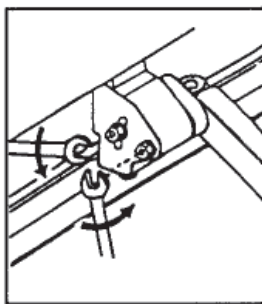
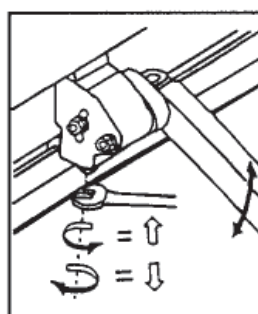
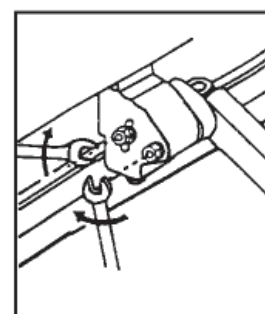

Figure 2a
Figure 2b
Figure 2c
2. At the selected turn, loosen the (2) locknuts located at the side of the upper arm connection using a 19mm (3/4”) open end wrench.
4. Tighten the (2) locknuts located on the side of the arm connection.
**PITCH ANGLE:** The awning comes factory pre-set with a pitch angle of approximately 20°. This represents the minimum angle recommended for proper rain run-off. If it is desired to increase this angle, loosen the two (2) lock nuts located on the outside upper joint of each arm using a 3/4” or 19 mm wrench (*see fig. 2a*). Adjust the arms downward by rotating the bolt head at the bottom of the arm connection in a counter clockwise direction (looking from the bottom up) (*see fig. 2b*). Likewise, rotating the bolt in a clockwise direction will raise the arm. After all arms are adjusted to an equal height, re-tighten lock nuts on the side of each arm (*see fig. 2c*).